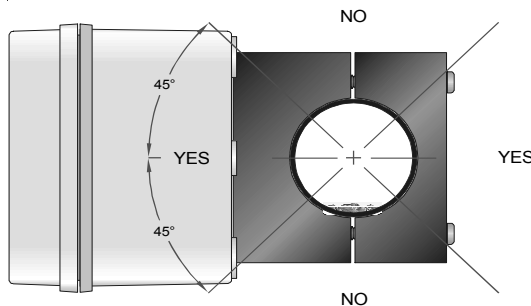

Figure 2
- B. On horizontal pipe, choose a flow meter mounting location within approximately 45-degrees of the side of the pipe. See **Figure 2**. Locate the flow meter so that the pipe will be completely full of liquid when flow is occurring in the pipe. Avoid mounting on vertical pipes where the flow is moving in